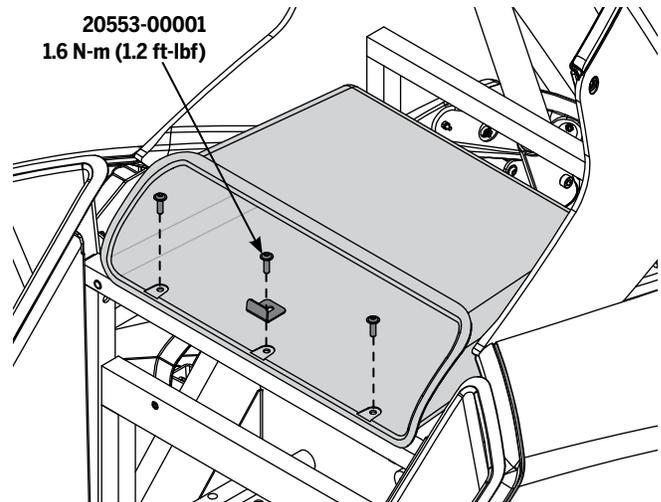

Figure 19: Glove Box Fasteners
3. Using a 4 mm hex wrench, remove the three fasteners and Lock Plate as shown in **Figure 19**.
5. Using a 4 mm hex wrench, install the three fasteners and Lock Plate as shown in **Figure 19**. Torque to **1.6 N-m (1.2 ft-lbf)**.